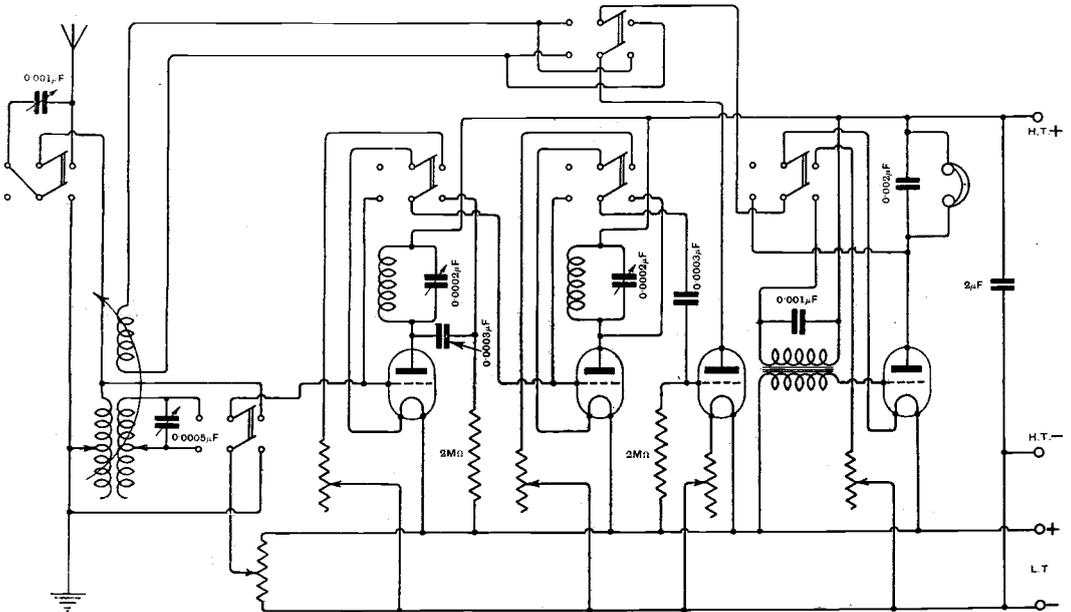

Fig. 1. "H.M." (Manchester). A four-valve receiver (two H.F., det., one L.F.), using tuned anode, and with switch for reversing reaction.
(1) and (2) The diagram is given in Fig. 1. You will find the potentiometer useful in controlling self-oscillation of the receiver.